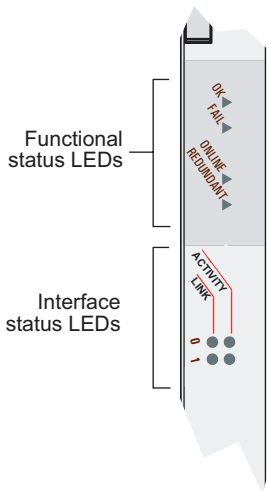

Figure 8-2 FE2 module LEDs
- Ethernet line module (Figure 8-2)